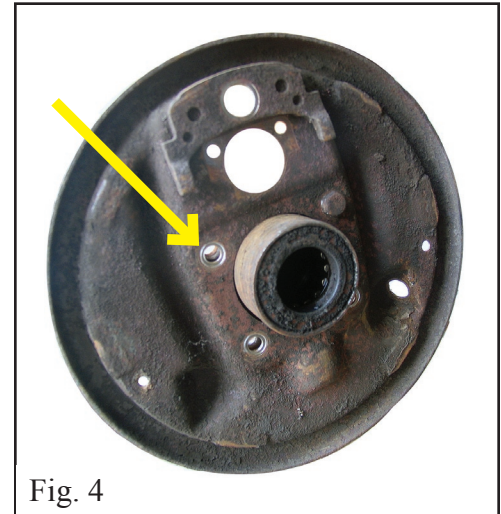

Fig. 4
11. Remove the drum backing plate assemblies by removing the four mounting bolts (figure 4).
7. Mount the combination valve to supplied bracket and attach the bracket and lines as shown in fig. 4.